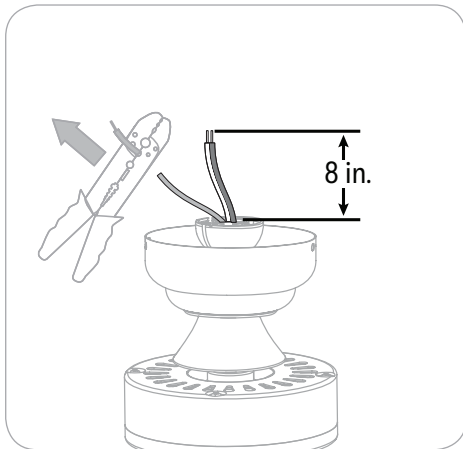

Figure 3.4
4. Depending on the length of downrod you use, you may want to cut the fan wires to simplify wiring. After pulling the wires all the way through the downrod, measure 8 inches of wire. Cut off the excess wire using wire cutters (not included). Then strip 1/2 inch of insulation from the end of each wire strand (Figure 3.4).
5. Install the ball end of the downrod into the opening of the mounting bracket (Figure 3.4). **WARNING:** Failure to align the slot in the ball with the tap on the mounting bracket may cause the fan to fall, which could result in injury or death.